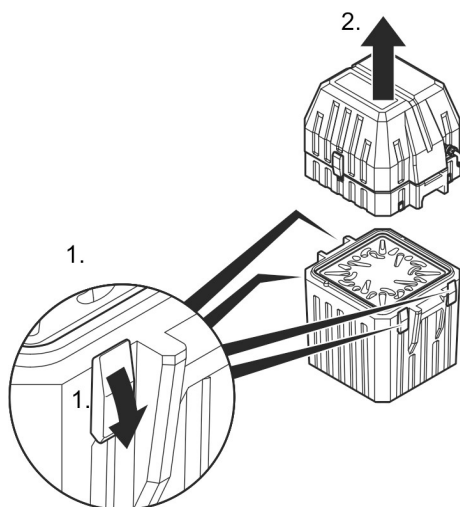

Figure 30 Remove the top part of the housing (TP5 C)
2. Remove the top part as shown in the illustrations Figure 29, Page 27 and Figure 30, Page 28.